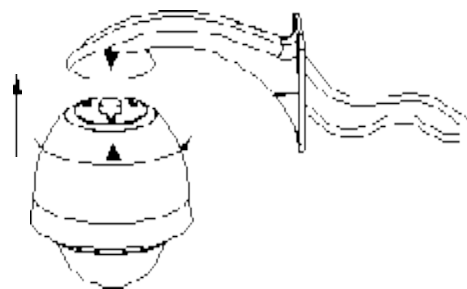

Figure 11
- e) Push the dome up and turn anti-clockwise as Figure 11.